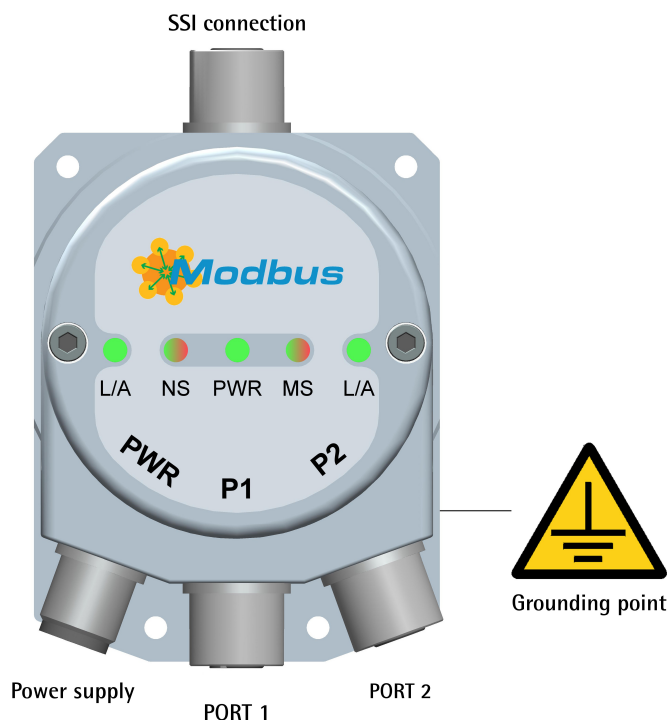

Figure 4 - Connectors and diagnostic LEDs
#### 4.2 SSI connection (Figure 4)
**4.3 Power supply and MODBUS TCP/IP interface connectors (Figure 4)**
**4.3.1 PWR Power supply connector (Figure 4)**
**4.3.2 P1 Port 1 and P2 Port 2 connectors (Figure 4)**
To minimize noise connect properly the shield and/or the connector housing and/or the frame to ground. Connect properly the cable shield to ground on user's side. Lika's EC- pre-assembled cables are fitted with shield connection to the connector ring nut in order to allow grounding through the body of the device. Lika's E- connectors have a plastic gland, thus grounding is not possible. If metal connectors are used, connect the cable shield properly as recommended by the manufacturer. Anyway make sure that ground is not affected by noise. It is recommended to provide the ground connection as close as possible to the device. We suggest using the ground point provided in the cap (see Figure 4, use 1 TCEI M3 x 6 cylindrical head screw with two tooth lock washers).
#### 4.9 Diagnostic LEDs (Figure 4)
Five LEDs located in the cap of the converter (see the Figure 4) are meant to show visually the operating or fault status of the device and the MODBUS interface. The meaning of each LED is explained in the following tables.